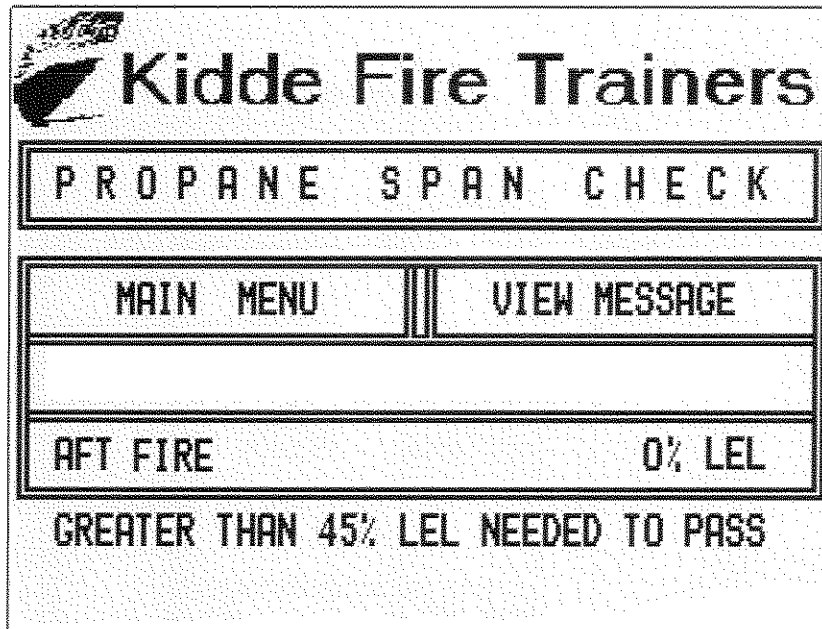
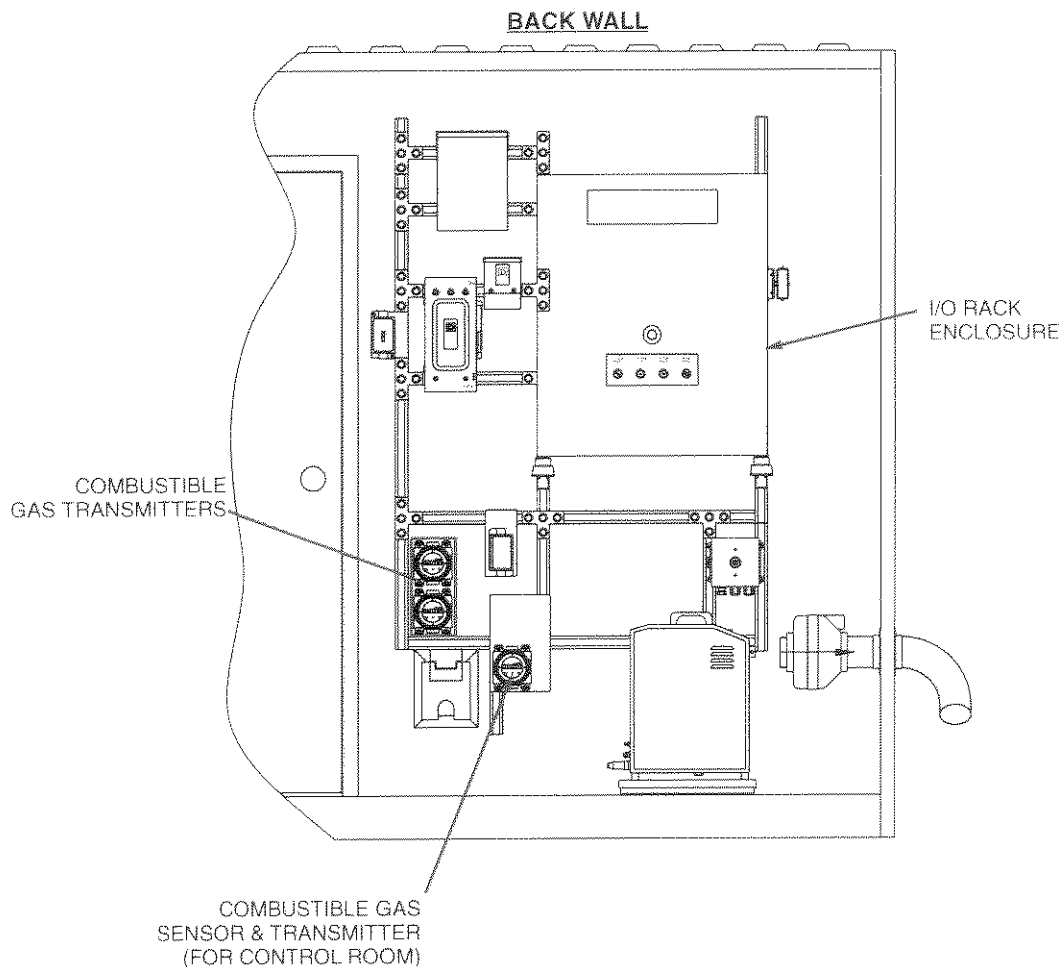
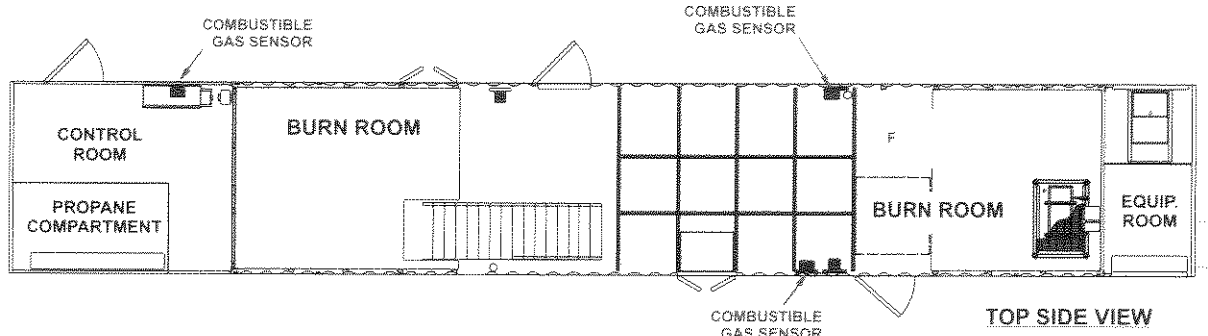

Figure 4-3. Propane Span Check Screen
Figure 4-4. Gas Transmitter/Sensor Locations (Control Room)
Figure 4-5. Gas Sensors Locations
To perform a Propane Span Check, at the control console fire trainer touch screen, on the Main Menu screen touch the PROPANE SPAN CHECK area to bring up the Propane Span Check Screen as shown in Figure 4-3. See Figure 4-4 for touch screen and transmitter locations and Figure 4-5 for gas sensor locations.
The combustible gas detection system consists of three transmitters located in the Control Room along with one sensor (See Figure 4-4) and two sensors located in the Burn Room (See Figure 4-5).
1. Locate the sensors in the Burn Room (See Figure 4-5) and remove the protective cover by undoing the two nuts on the bottom of the cover. Rotate the cover outwards and lift up to remove.